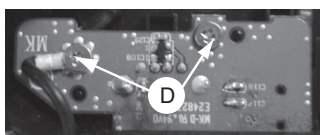

Figure 5
- 2) Loosen 2 screws "D" to move USB board as shown in figure 5.